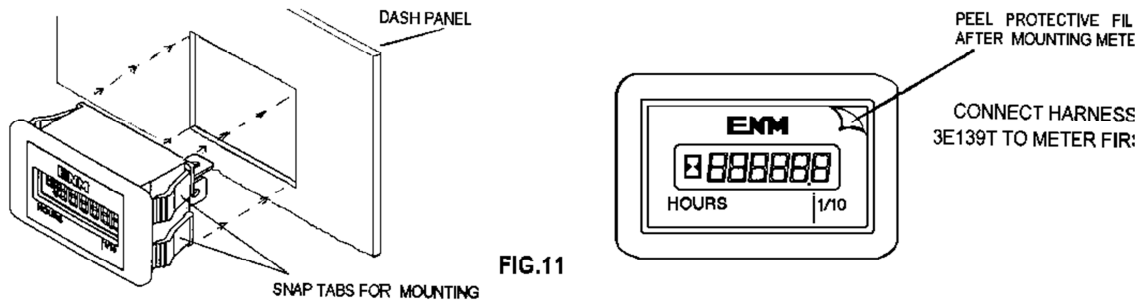

FIG. 11
3.3 MOUNTING HOUR METER – FIG. 11
SNAP HOUR METER INTO DASH PANEL RIGHT SIDE UP (SEE PROTECTIVE METER COVER FOR ORIENTATION) AND CONNECT HOUR METER HARNESS 3E139-T WIRES TO CORRECT METER TERMINAL ACCORDING TO FIG 11, RED TO TERM. P, ORANGE TO TERM. I AND BLACK TO TERM. N. NO CONNECTION TO TERMINAL R. DRESS METER AND SWITCH HARNESS WIRES THROUGH PANEL OPENING TOWARD CCU LOCATION [SEE FIG. 9 PHOTO]. REINSTALL DASH PANEL. SWITCH AND METER MOUNTING AND PANEL INSTALLATION ARE NOW COMPLETE.